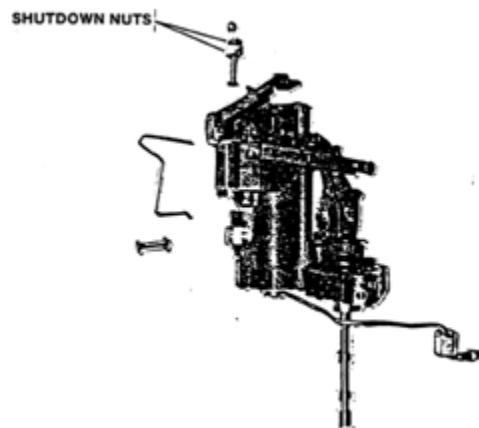

Figure 5-4. Fuel Limiter Assembly
- g. Lift off the fuel-limiter assembly (Figure 5-4).